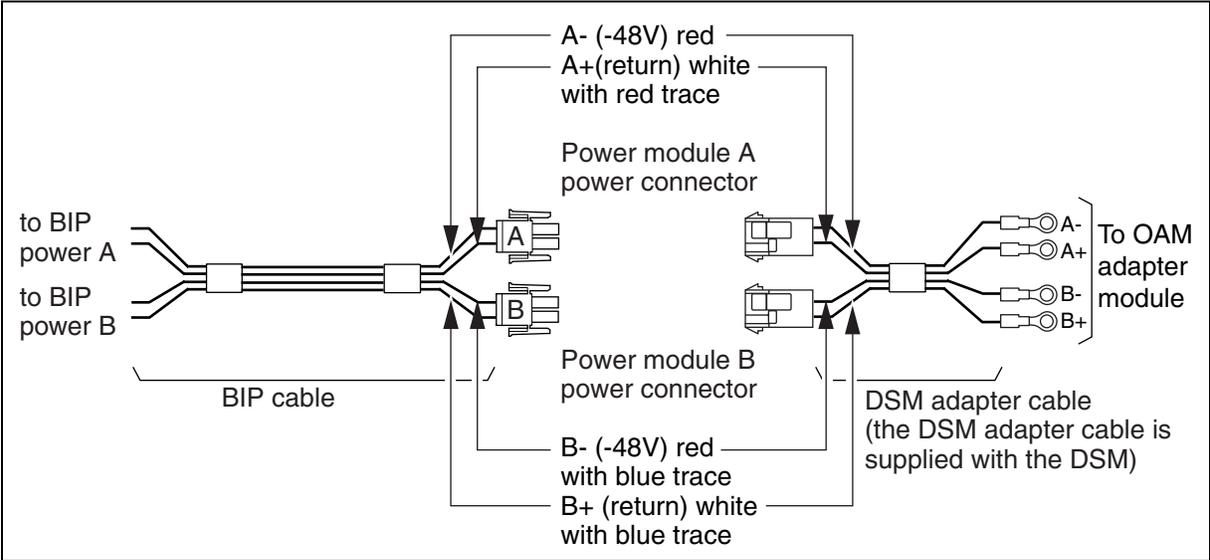

Figure 5-7
See Figure 5-7 on page 5-16.
- Figure 5-7 on page 5-16